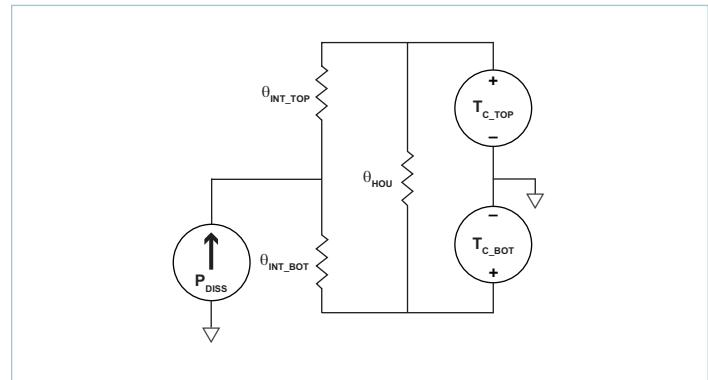
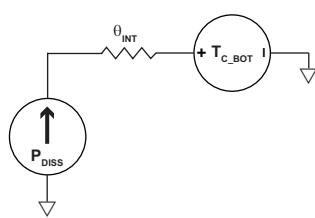

Figure 22 — Double-sided cooling VIA thermal model
Figure 23 — Single-sided cooling VIA thermal model
The VIA package provides effective conduction cooling from either of the two module surfaces. Heat may be removed from the top surface, the bottom surface or both. The extent to which these two surfaces are cooled is a key component for determining the maximum power that can be processed by a VIA, as can be seen from the specified thermal operating area in Figure 1. Since the VIA has a maximum internal temperature rating, it is necessary to estimate this temperature based on a system-level thermal solution. For this purpose, it is helpful to simplify the thermal solution into a roughly equivalent circuit where power dissipation is modeled as a current source, isothermal surface temperatures are represented as voltage sources and the thermal resistances are represented as resistors. Figure 22 shows the "thermal circuit" for the VIA module.
- Single side cooling: the model of Figure 22 can be simplified by calculating the parallel resistor network and using one simple thermal resistance number and the internal power dissipation curves; an example for bottom side cooling only is shown in Figure 23.